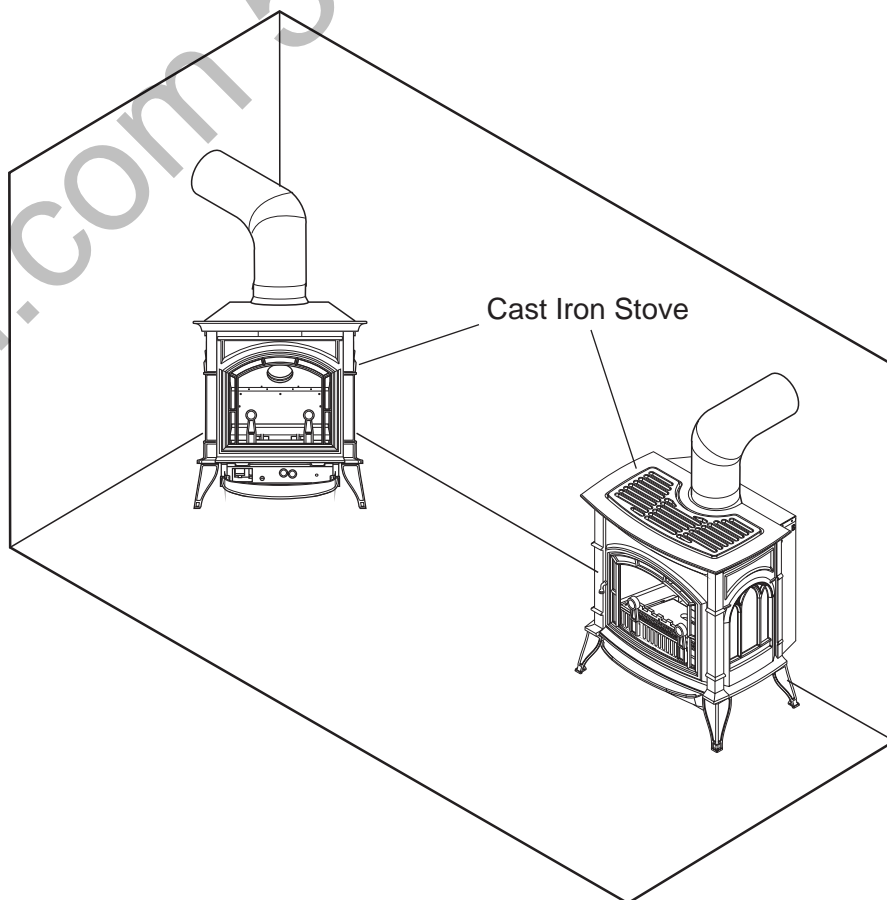

Figure 3 - Example of Typical Installations
- This stove may be installed along a wall, across a corner, or use an exterior chase. See Figure 3 for suggested locations.